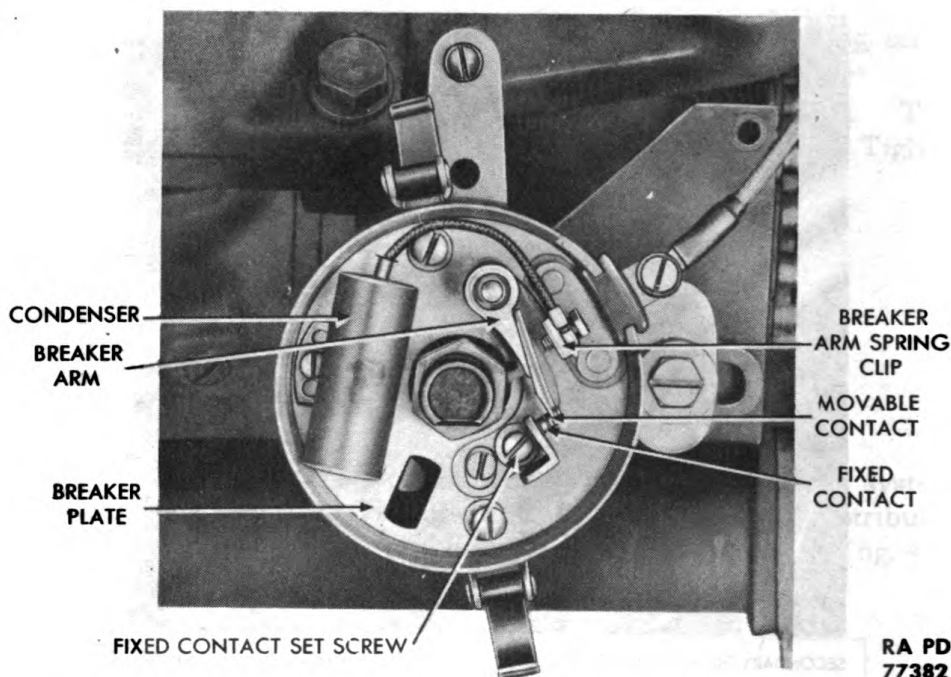

Figure 50 - Distributor - Cap and Rotor Removed
(1) DESCRIPTION (fig. 50). A conventional automotive-type distributor condenser is used. Its function is to intensify the spark. It is located on the distributor breaker plate. It can be reached through the left-hand cab skirt opening.
(2) TABULATED DATA.
(3) **REMOVE CONDENSER FROM BREAKER PLATE** (fig. 50). Remove screw and lock washer which attach condenser pigtail to breaker arm spring clip. Remove screw and lock washer which attach condenser to breaker plate. Lift condenser from distributor.
(1) **INSTALL CONDENSER IN DISTRIBUTOR** (fig. 50). Place condenser in position on distributor breaker plate. Install lock washer and screw which attach condenser to breaker plate. Connect condenser pigtail to breaker arm spring clip with lock washer and screw provided for the purpose. Replace rotor. Place distributor cap in position on body and engage both spring clips.
(2) **ADJUST BREAKER POINT GAP** (fig. 50). Loosen both spring clips and lift cap from distributor. Lift rotor from distributor. Rotate engine with hand crank until points are opened to widest gap. Measure gap. It should be 0.020 inch. If within 0.002 inch of correct setting, no adjustment is necessary. Otherwise, loosen fixed contact set screw and moved fixed contact until gap measures 0.020 inch. Tighten set screw. Check breaker arm spring tension and adjust if necessary (step (3) below). Push rotor into place on shaft. Place cap in position on body and engage spring clips.
(3) **REPLACE BREAKER POINTS** (fig. 50). If breaker points are a grayish color and only slightly pitted, they need not be replaced. Replace rough or pitted contacts as instructed below. If it is necessary to use the old breaker points, hone them with a stone to a smooth, flat surface. Do not file. Unsnap spring clips and lift cap from distributor. Lift rotor. Remove breaker arm and condenser wire screw. Lift breaker arm from pivot. Remove fixed contact set screw and lift out contact plate. Place new contact plate in position and install fixed contact set screw fingertight. Place breaker arm in position on pivot. Install breaker arm and condenser wire screw. Adjust breaker point gap (step (2) above). Place rotor in position on shaft. Place cap in position on body and engage both spring clips.